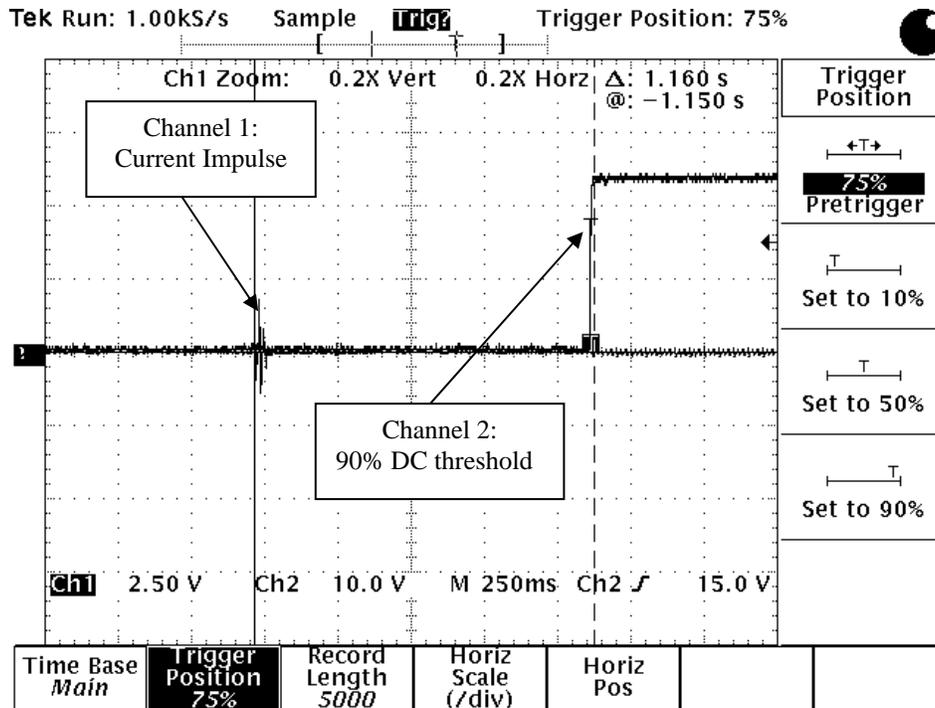

Figure 6 : Startup Time
4.9.6. Find out where you are within cycle, to make sure you have zero crossing correct to within ± 1 milliseconds. Turn the AC supply “on” and measure the time from the first inrush current impulse to the point where the DC output voltage reaches the minimum operating specification. Refer to Figure 6.